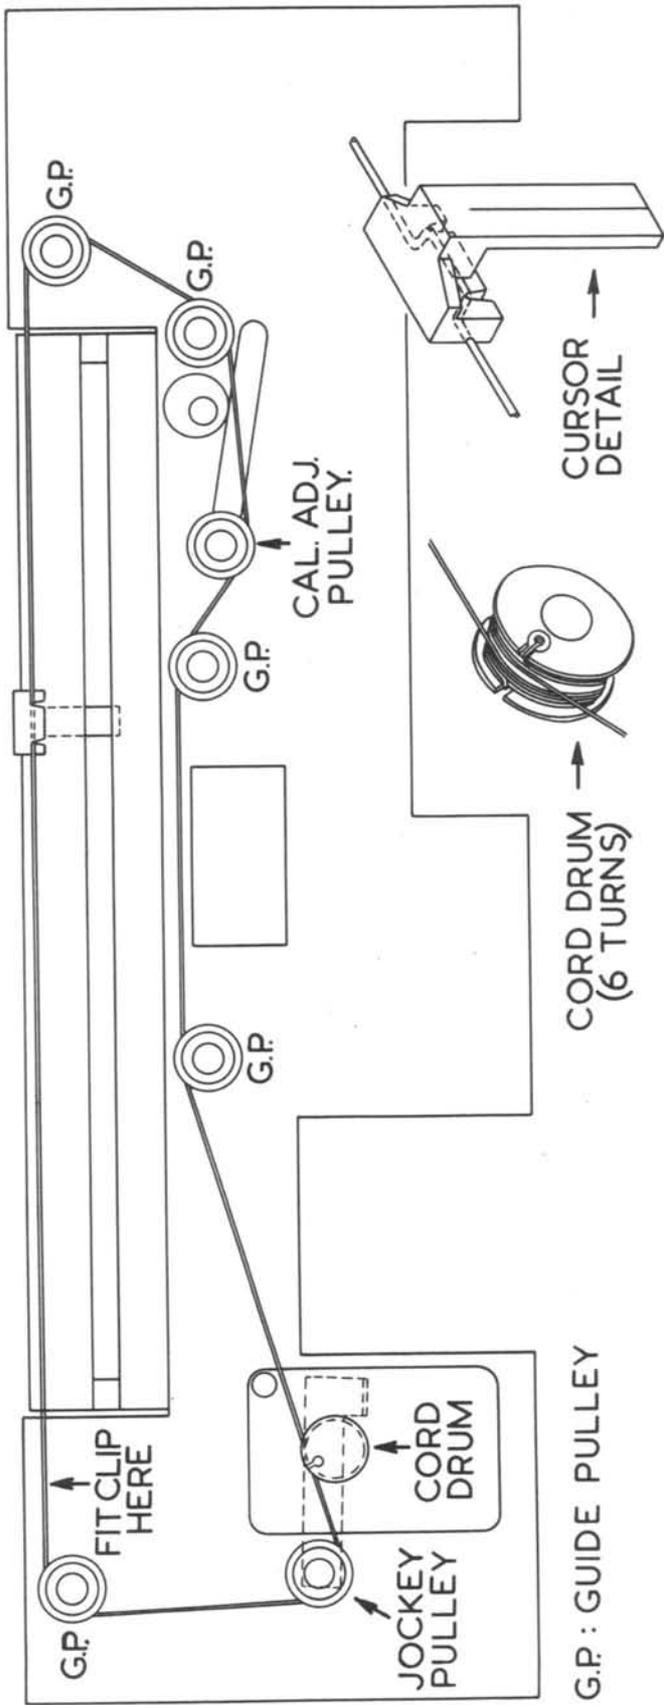

Fig. 6.1 Cording arrangement on main cursor drive.
Main Cursor Drive (see Fig. 6.1)
9. Attach cord loop to other pulleys by reference to Fig. 6.1 and then remove the Bulldog clip.